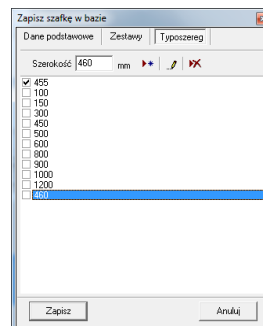

Fig. 186 – choosing the series of types
- in the **Series of types** tab (Fig. 186) you can assign the cabinet to selected groups in regards to the width, in which it will be available;